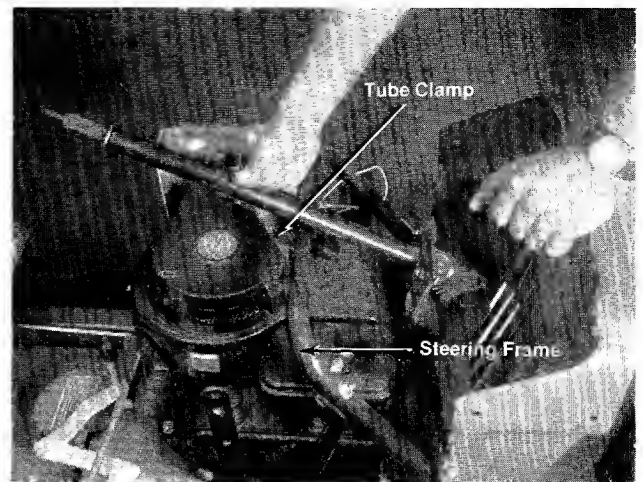

FIGURE 5.
2. Place one tube clamp under steering frame. See figure 5.